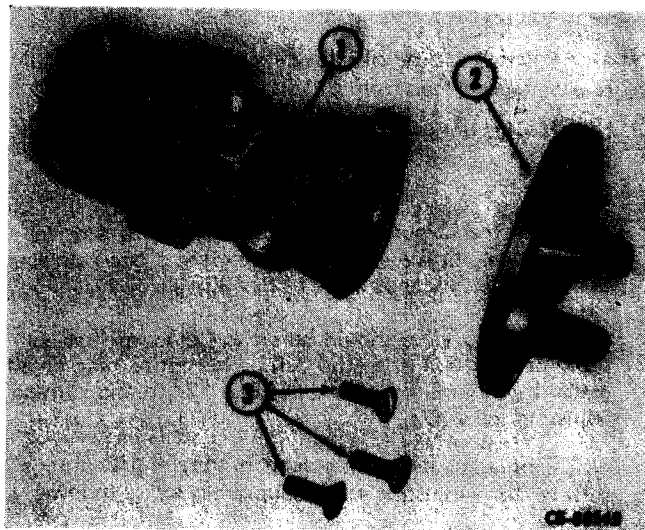

Figure 13-16
BOTH VALVES - Punch mark mounting plate (2, Fig. 13-16) and body (1) for reference at assembly.
BOTH VALVES - Place mounting plate (2, Fig. 13-16) on valve body (1), aligning punch marks made at disassembly, and secure with screws (3).